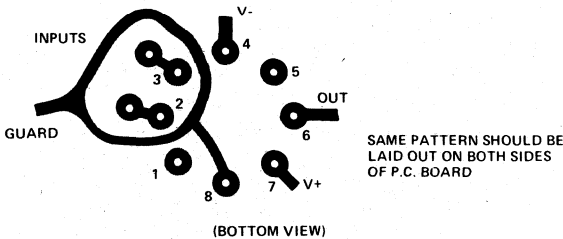
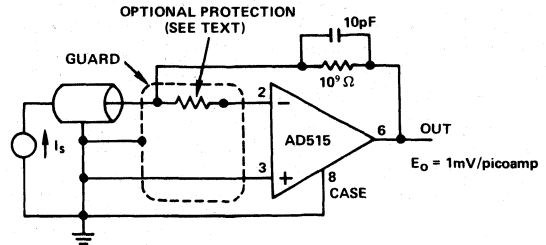

Figure 1. Board Layout for Guarding Inputs with Guarded TO-99 Package
Figure 2. Picoampere Current-to-Voltage Converter Inverting Configuration
2. The use of guarding techniques is essential to realizing the capability of the ultra-low input currents of the AD515. Guarding is achieved by applying a low impedance bootstrap potential to the outside of the insulation material surrounding the high impedance signal line. This bootstrap potential is held at the same level as that of the high impedance line; therefore, there is no voltage drop across the insulation, and hence, no leakage. The guard will also act as a shield to reduce noise pickup and serves an additional function of reducing the effective capacitance to the input line. The case of the AD515 is brought out separately to pin 8 so that the case can also be connected to the guard potential. This technique virtually eliminates potential leakage paths across the package insulation, provides a noise shield for the sensitive circuitry, and reduces common-mode input capacitance to about 0.2pF. Figure 1 shows a proper printed circuit board layout for input guarding and connecting the case guard. Figures 2 and 3 show guarding connections for typical inverting and non-inverting applications. If pin 8 is not used for guarding, it should be connected to ground or a power supply to reduce noise.
3. Printed circuit board layout and construction is critical for achieving the ultimate in low leakage performance that the AD515 can deliver. The best performance will be realized by using a teflon IC socket for the AD515; but at least a teflon stand-off should be used for the high-impedance lead. If this is not feasible, the input guarding scheme shown in Figure 1 will minimize leakage as much as possible; the guard ring should be applied to both sides of the board. The guard ring is connected to a low impedance potential at the same level as the inputs. High impedance signal lines should not be extended for any unnecessary length on a printed circuit; to minimize noise and leakage, they must be carried in rigid, shielded cables.
Many instrumentation situations, such as flame detectors in gas chromatographs, involve measurement of low level currents from high-voltage sources. In such applications, a sensor fault condition may apply a very high potential to the input of the current-to-voltage converting amplifier. This possibility necessitates some form of input protection. Many electrometer type devices, especially CMOS designs, can require elaborate zener protection schemes which often compromise overall performance. The AD515 requires input protection only if the source is not current-limited, and as such is similar to many JFET-input designs. The failure mode would be overheating from excess current rather than voltage breakdown. If the source is not current-limited, all that is required is a resistor in series with the affected input terminal so that the maximum overload current is 0.5mA (for example, 200k $\Omega$  for a 100 volt overload). This simple scheme will cause no significant reduction in performance and give complete overload protection. Figures 2 and 3 show proper connections.
The conductor-to-shield capacitance of coaxial cable is normally about 30pF/foot. Charging this capacitance can cause considerable stretching of high impedance signal rise-time, thus cancelling the low input capacitance feature of the AD515. There are two ways to circumvent this problem. For inverting signals or low-level current measurements, the signal is carried on the line connected to the inverting input and shielded (guarded) by the ground line as shown in Figure 2. Since the signal is always at virtual ground, no voltage change is required and no capacitances are charged. In many circumstances, this will de-stabilize the circuit; if so, capacitance from output to inverting input will stabilize the circuit.